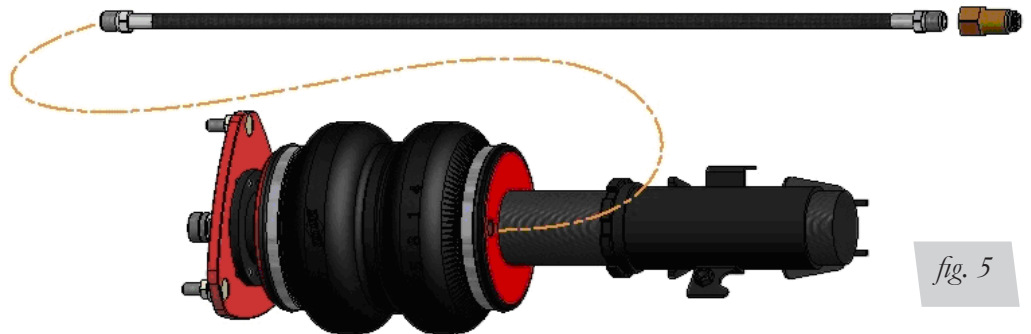

fig. 5
1. Begin by installing the leader line into the air spring. Apply thread sealant to the threads of the leader line. Tighten the appropriate fitting to the air line (1 3/4 turns beyond hand-tight). Tighten the leader line into the air spring 1 3/4 turns beyond hand-tight (Fig. 5).